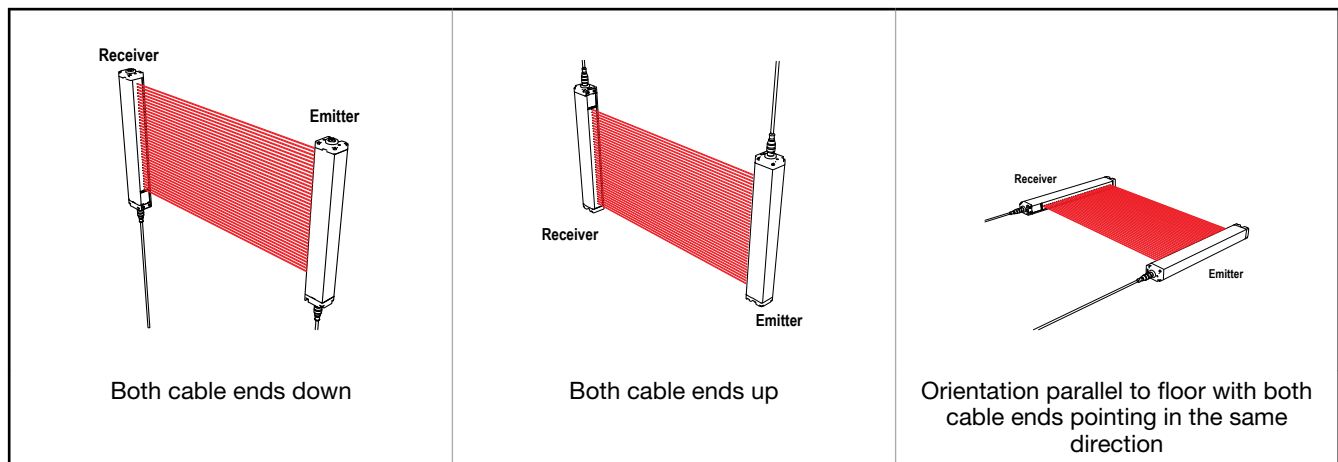

Figure 10. Examples of Correct Emitter/Receiver Orientation
Important: The connector ends of both sensors must point in the same direction (see Figure 10 on page 18). Loosely mount the brackets to the desired surface using the supplied M5 bolts and nuts, or user-supplied hardware. Brackets may face in or out, as desired.
3. Position the emitter and receiver in their brackets, as shown in Figure 10 on page 18. Loosely attach the front bracket plate to the bracket, at each end.
Important: The connector ends of both sensors must point in the same direction (see Figure 10 on page 18).